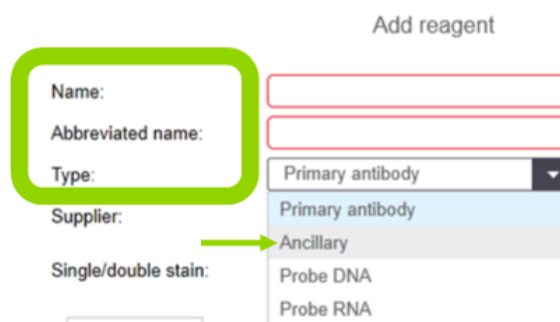

Figure 7: Add reagent window - Home Buffer
- In the **Add Reagent** window (see Figure 7), enter a unique name in the **Name** field. To register Home Buffer, enter *Home Buffer*.